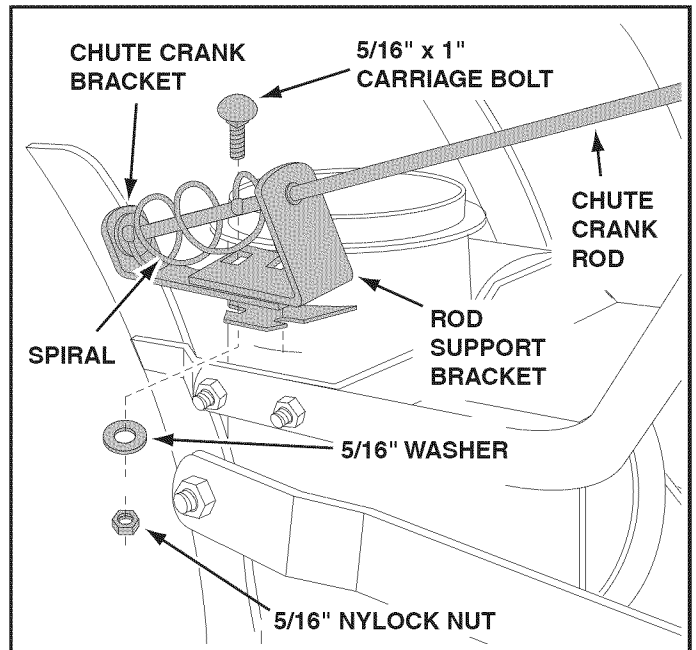

FIGURE 24
**STEP 26: (SEE FIGURE 24)**
- Position the crank rod spiral (see figure 24 on page 14) so that it does not rub against the bottoms of the notches in the chute flange. **Tighten** the nuts.